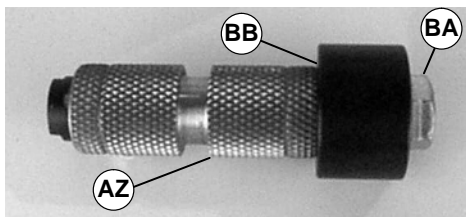

Figure 39
- Assemble pulley (AZ of Figure 39), removal tool (part # 25-09\*) (BB), and bolt (part # 906-278\*) (BA), as shown
- Tighten bolt (BA) to remove bearing sleeve (AY)